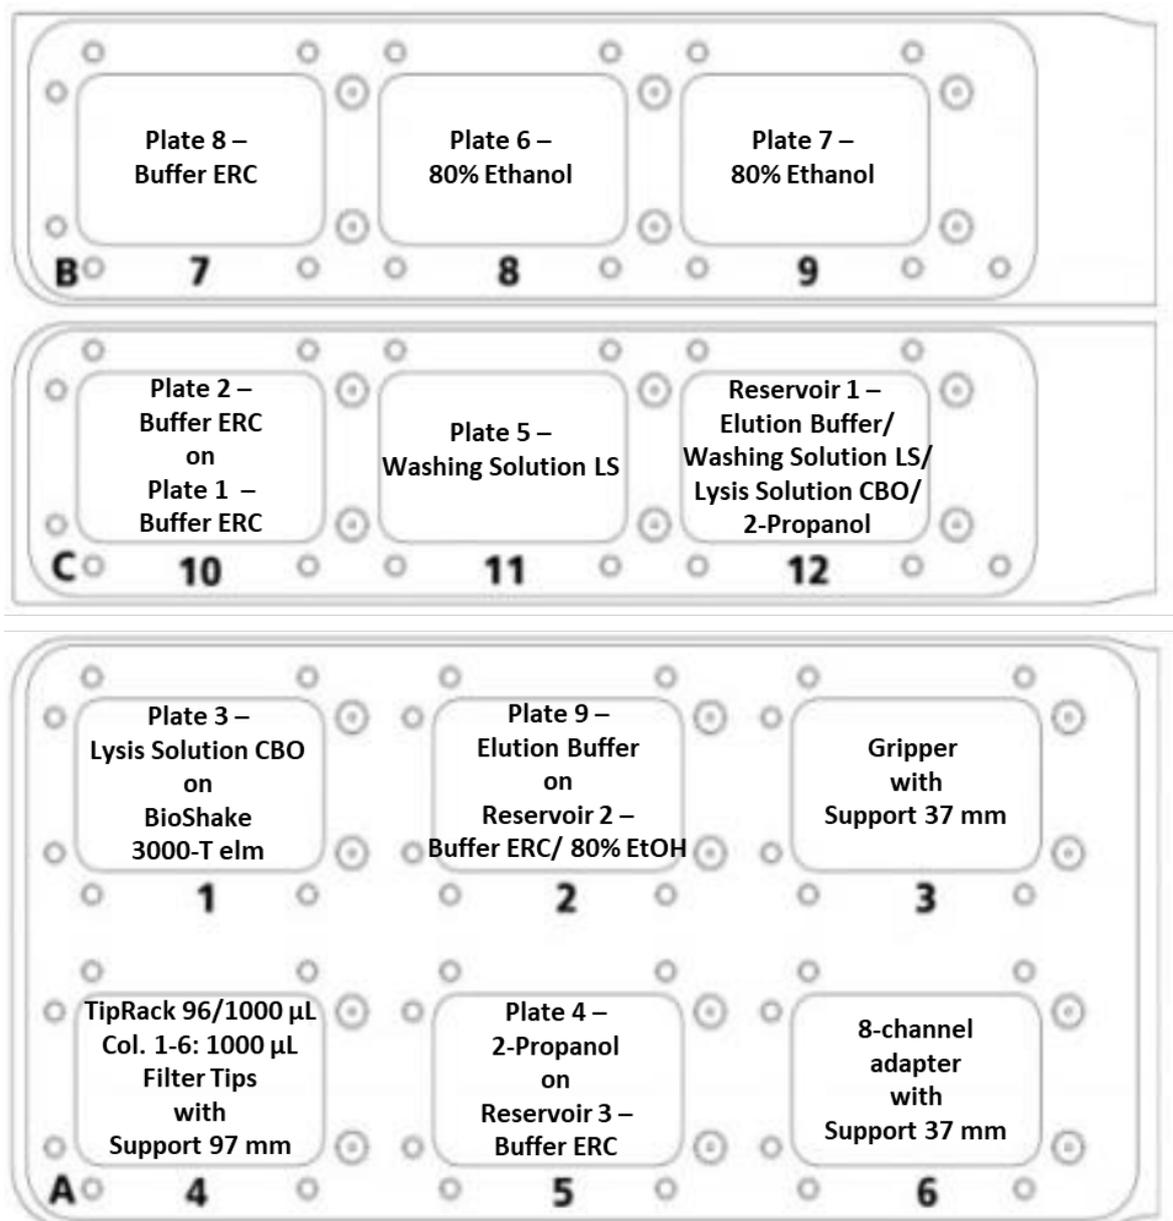

Figure 21: Deck layout for the prefilling protocol for 600 to 1000 μ L sample volume.
6. Transfer 40 mL **2-Propanol** into column 4 of the reservoir labeled "Reservoir 1 - Elution Buffer/ Washing Solution LS/ Lysis Solution CBO/ 2-Propanol". Place the filled reservoir into the CyBio FeliX on position 12 (→ see **Figure 21**).
8. Transfer 120 mL **80% Ethanol** into the **right** side of the 2 column reservoir labeled "Reservoir 2 – Buffer ERC/ 80% Ethanol". Place the filled reservoir into the CyBio FeliX on position 2 (→ see **Figure 21**).
9. Transfer the content of two bottles (2 x 110 mL) **Buffer ERC** into the reservoir labeled "Reservoir 3 – Buffer ERC". Place the filled reservoir into the CyBio FeliX on position 5 (→ see **Figure 21**).
11. Place the CyBio TipRack 96/1000 µL into the CyBio FeliX on position 4 (→ see **Figure 21**).
12. Place the 8-channel adapter (Head R 96) with the support 37 mm into the CyBio FeliX on position 6 (→ see **Figure 21**).
13. Place the empty, labeled plates on the CyBio FeliX deck according to the deck layout for the prefilling protocol for up to 1000 µL sample volume (→ see **Figure 21**).